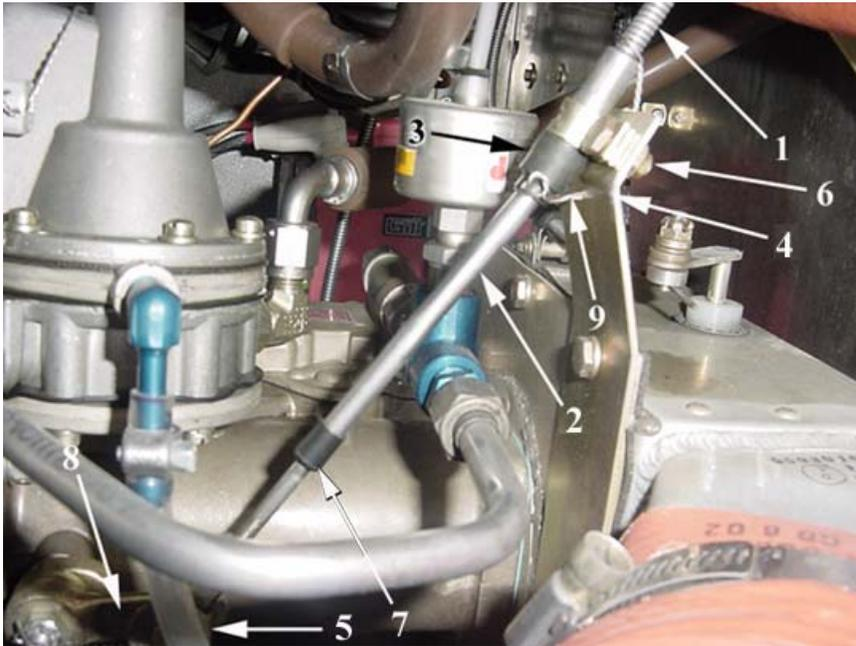

Figure 2
Reference Figure 2
6. Remove the two rubber boots [Figure 2 items (3) and (7)] from sleeve (2) and inspect for cracks and/or deterioration of the boots.
7. Install a "C" clamp on sleeve (2) approximately 0.50 inch from swivel collar (10).